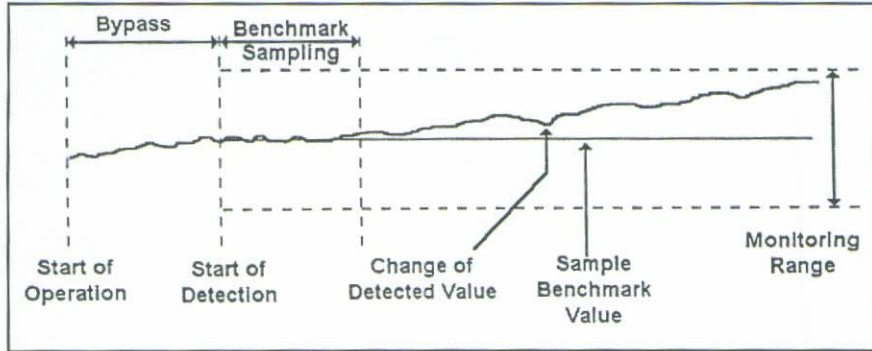

Fig. 3 — Trend mode alarming.
**Trend Mode Alarming:** This type of alarming uses the benchmark method of setting upper and lower control monitoring limits, **Figure 3**. The user selects the desired monitoring limit between 10 and 500 microns (0.0004" and 0.020") These values become the reference against which all subsequent values taken during the production run are compared. In this mode, the monitoring range is